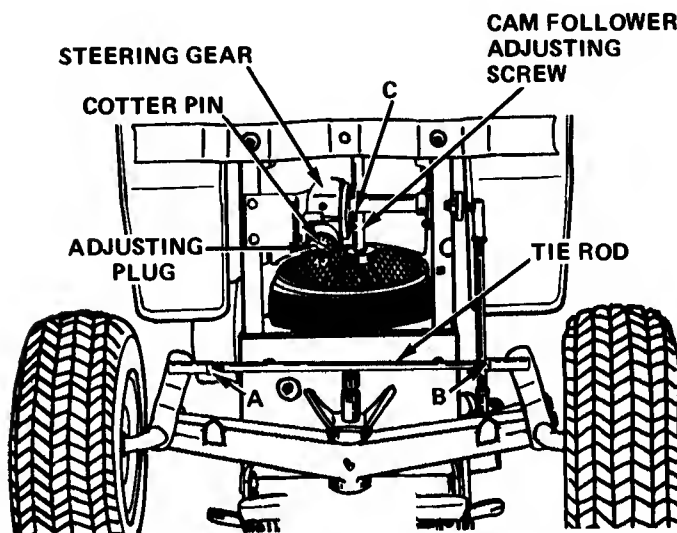

FIGURE 19
1. Loosen jam nuts A and B, Figure 19.
2. Remove cotter pin identified in Figure 19.
3. Loosen jam nut C, Figure 19 and turn adjusting screw out (counter-clockwise) 1½ turns.
4. Tighten adjusting plug, Figure 19, to 10-14 ft. lbs. of torque.
6. Hold jam nut and turn adjusting screw, Figure 19, clockwise (in) until backlash is removed from steering wheel. **DO NOT FORCE ADJUSTING SCREW.** Torque jam nuts 35-45 ft. lbs. while holding adjusting screw in position.